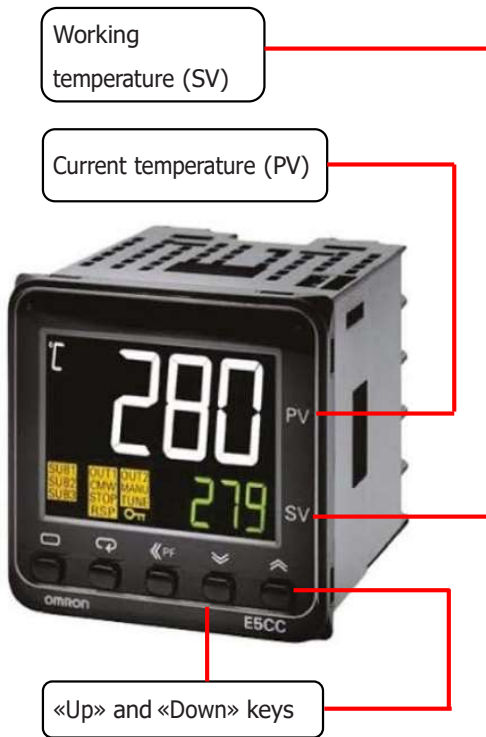

Figure 7.3
Once the controller has finished its starting routine, it allows the selection of the working temperature (SV) by means of the «Up» and «Down» keys (See figure 7.3).